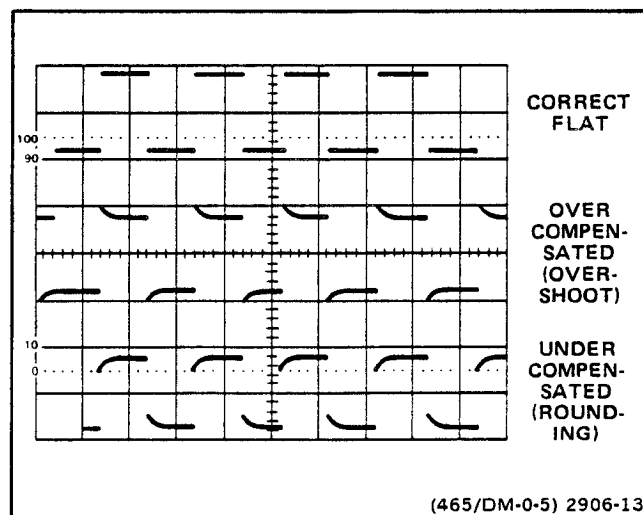

Figure 5-1. Probe compensation.
6. Check the waveform display for overshoot and rounding (see Figure 5-1); if necessary, use a small-bladed screwdriver to adjust the probe compensation for a square front corner on the waveform.
11. Check the waveform display for overshoot and rounding (see Figure 5-1); if necessary, use a small-bladed screwdriver to adjust the probe compensation for a square front corner on the waveform.